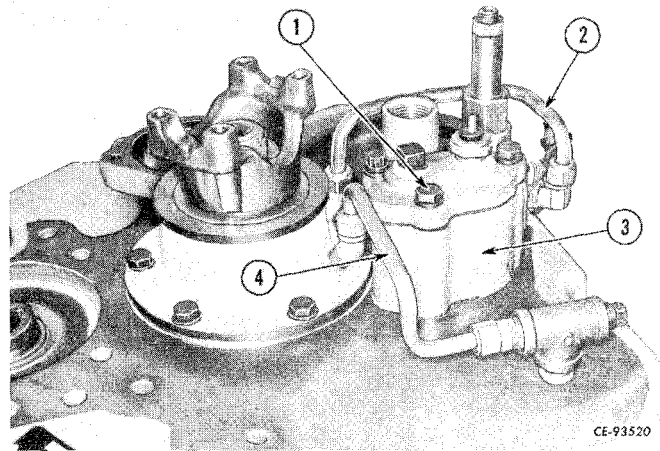

Figure 3-7
Remove the tubing (2, 4, Fig. 3-7). Remove cap screws (1) that retain the pressure regulating valve body (3) and remove the body, base gasket and "O" rings on valve body base and converter housing. Discard gasket and "O" rings.